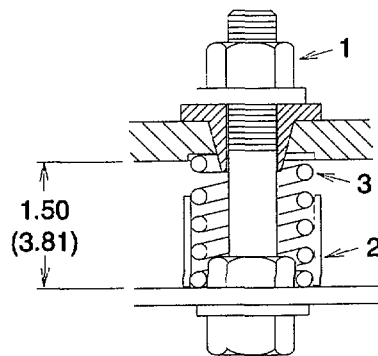

Figure 4-5. Compressor Mount
- d. Remove two caps (5) and fully open two shut off valves (6) Install two caps
- e. Loosen four compressor mount locknuts (1, fig 4-5) until proper operating space 1 5 in (3 81 cm) is reached Shipping bracket (2) must remain clipped to spring (3)